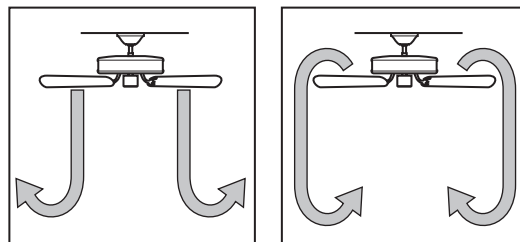

Figure 29 - Air flow patterns
2. Ceiling fans work best by blowing air downward (counterclockwise blade rotation) in warm weather to cool the room with a direct breeze. In winter, having the fan draw air upward (clockwise blade rotation) will distribute the warmer air trapped at the ceiling around the room without causing a draft. Refer to Figure 29.